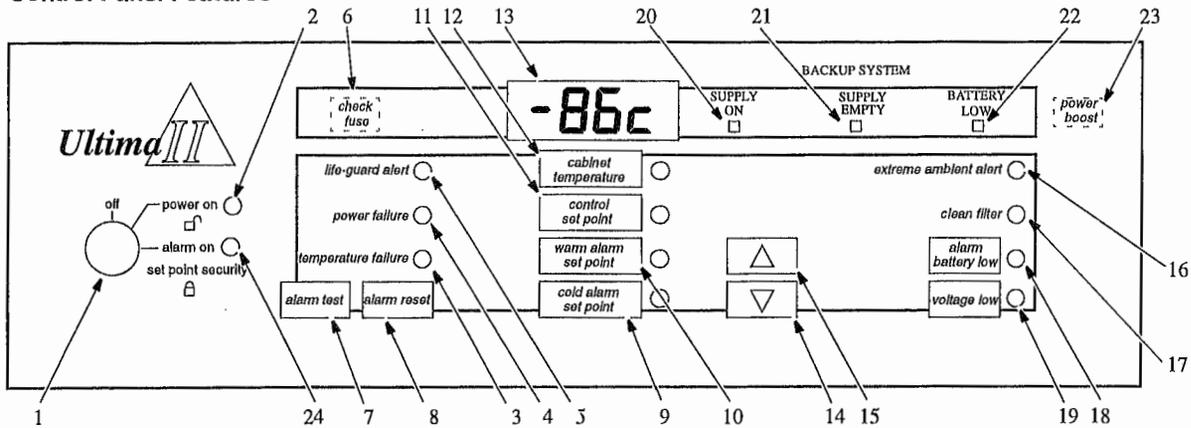

Figure 2. Ultima II 900 Series Control Panel with Optional Backup System
Before the initial start up, take some time to become familiar with the controls on your freezer. Figure 2 illustrates the Revco Ultima II Chest and Upright Freezer control panel.
**Note:** Figure 2 shows all possible functions. These functions vary depending on the model and options. You may not have all of the functions on your equipment. Elite models do not include the Check Fuse indicator light (6) or the Power Boost light (23) as these models do not come standard with these options. Likewise, only Ultima II models will include the Set Point Security feature (24), Life-Guard Alert indicator light (5), and the Extreme Ambient Alert indicator light (16). The CO2 or LN2 Backup System lights (20, 21, 22) represent status indicators for a built-in CO2 or LN2 backup system, which is optional on Ultima II, Ultima or Elite models.
Refer to Section 7.1 and Figure 2 on page 4 as you complete the following procedures.